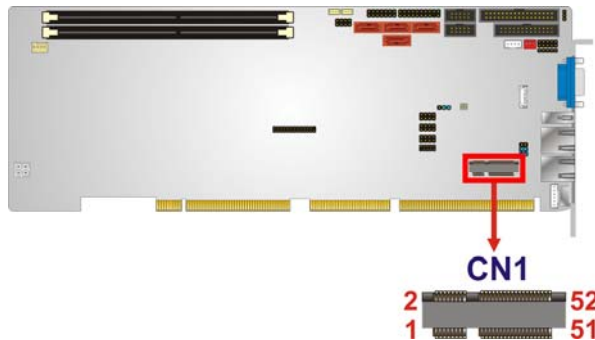

Figure 3-17: PCIe Mini Card Slot Location
- CN Location:** See **Figure 3-17**